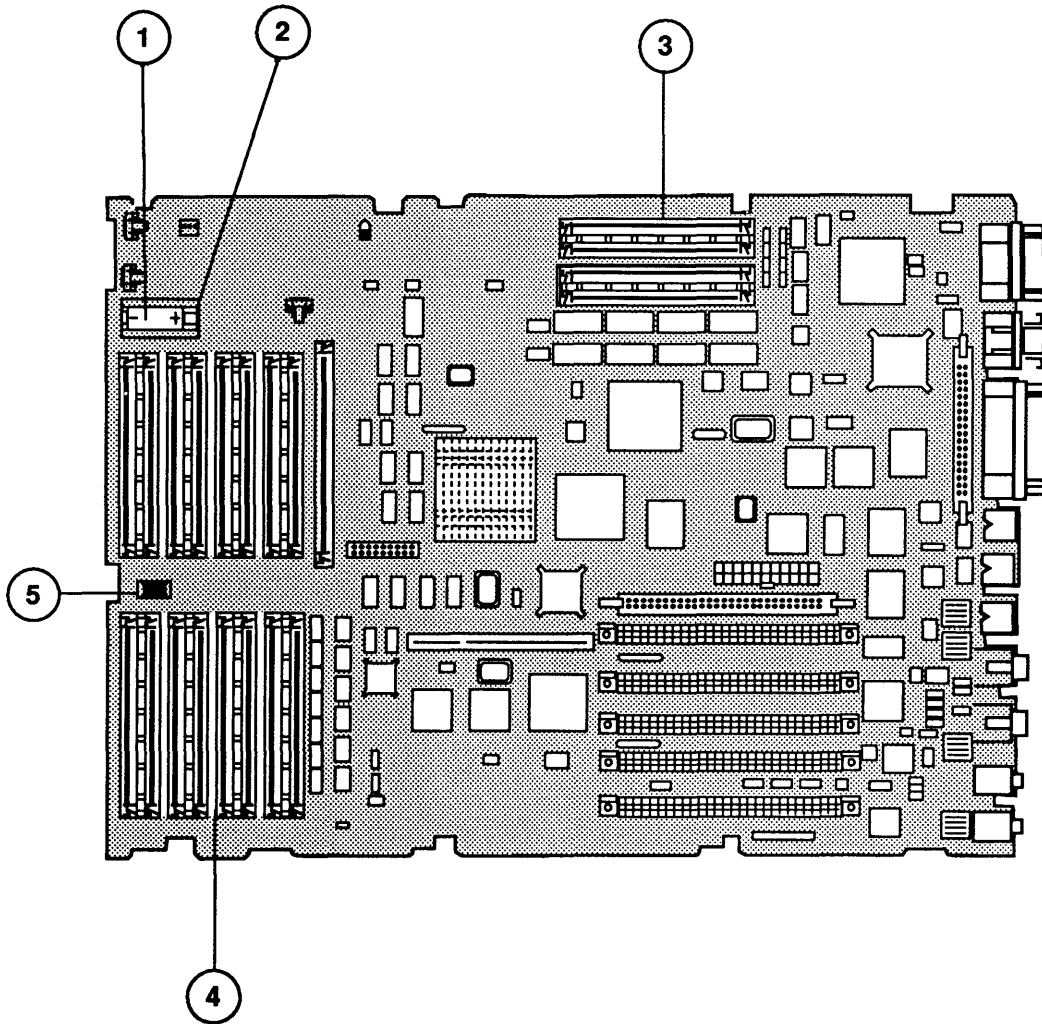

Figure 2 Logic Board Components
- IPL.5 Logic Board Components (Figure 2)
□ LOGIC BOARD COMPONENTS (Figure 2)